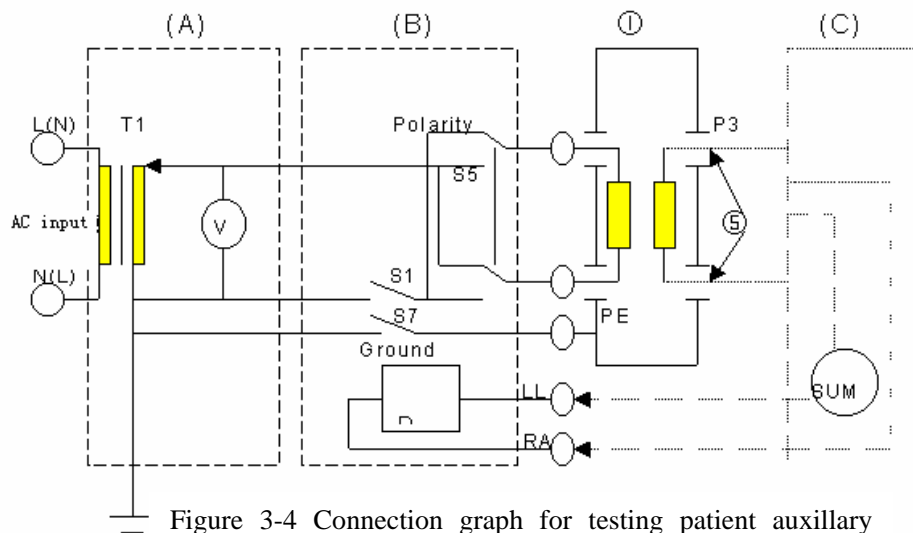

Figure 3-4 Connection graph for testing patient auxiliary leakage current
2.2.4.1 Connection graph for testing is shown in figure 3-4